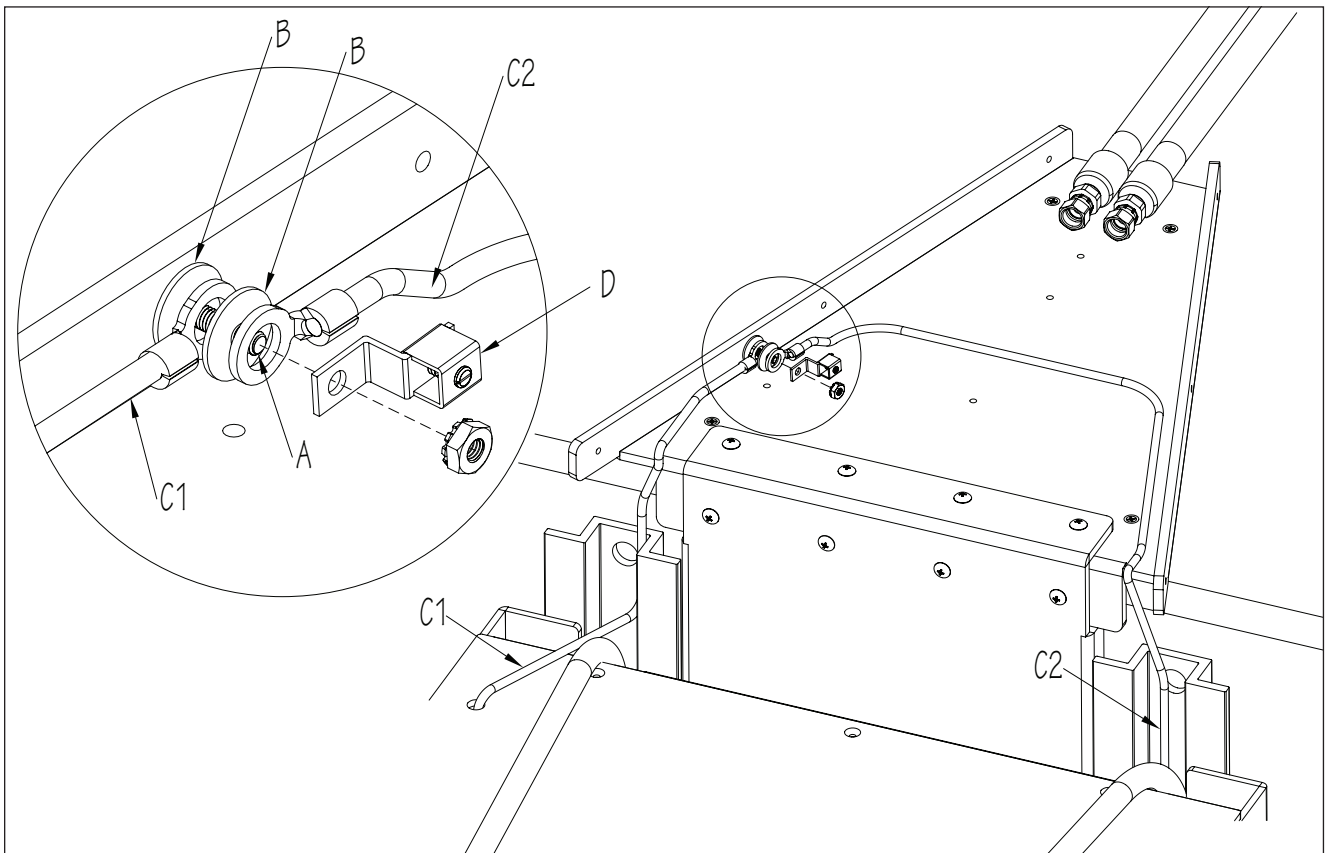

Fig. 21
2. Locate the bonding hardware in the hardware kit. Insert the Machine Screw (A) into the countersunk hole on the side of the Deck Plate. On the inside of the plate, install a Flat Washer (B) onto the screw. Attach Bonding Wire (C1), from the Grab Bar, to the screw. Install another Flat Washer (B) and attach Bonding Wire (C2), from the right side of the Current Unit. Next, attach the Bonding Lug (D) and Nut (E). **IT IS CRITICAL THAT BOTH BONDING WIRES ARE INSTALLED** (Fig. 21).